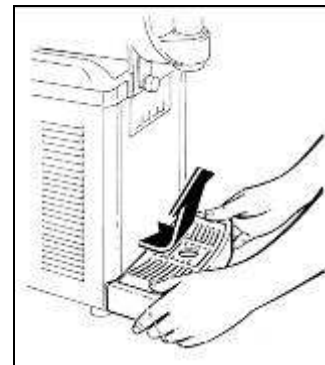

Fig. 19
- Remove the drip tray by rotating it upward and pulling it outward (fig.19).